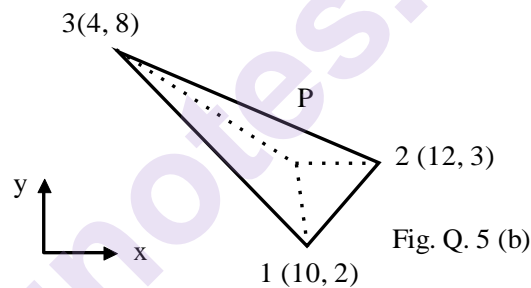

Fig. Q. 5 (b)
- b) For a CST element shown in fig Q 5 b, find x & y coordinates of P if $N_1 = 0.2$ and $N_2 = 0.45$ at P. Hence find Areas of $\Delta 1P3$, $\Delta 1P2$ & $\Delta 3P2$. Also find area of CST element 3 (4,8)
- c) In fig Q 5 b, if $q_1 = 0.001$; $q_2 = 0.003$